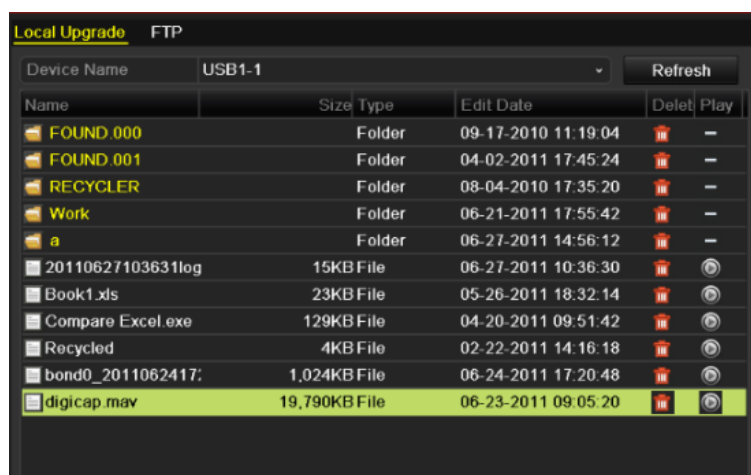

Figure 12. 12 Local Upgrade Interface
3. Click the **Local Upgrade** tab to enter the local upgrade menu, as shown in Figure 12. 12.